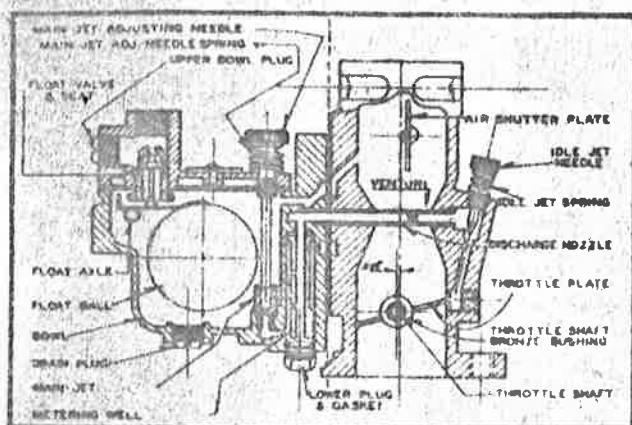

Figure 5. Cross Section of Zenith TU3YI Carburettor used on some OTC-5BH Units.
16. The Onan American OTC-5BH will be equipped with either a Zenith TU3YI or a Marvel-Schebler V.D. downdraft type carburettor. Both types have two adjustments, a Main Jet adjustment and an Idle Mixture adjustment. See Figures 5 or 6.
18. If the engine runs unevenly under half or full load, the main jet adjustment should be changed. See Fig. 5 and 6. Make this adjustment while the plant is operating under full or nearly full load by turning the knob to the left at least one full turn to enrich the mixture. Then turn it slowly to the right until the plant begins to lose speed and power. At this point, turn it slowly to the left again until the engine regains maximum speed and power. The main jet will then be correctly adjusted. Usually from $1\frac{1}{2}$ to 2 turns open on the Marvel-Schebler, and from 2 to 4 turns open on the Zenith Carburettor will be the correct setting for smooth and economical operation.
20. If the engine runs unevenly under light load, or no load, the Idle Jet Needle (See Fig. 5 and 6) should be turned to the right until it is closed. Then turn it slowly to the left or open it to the spot at which the engine runs smoothest. Usually from $1\frac{1}{2}$ to $2\frac{1}{2}$ turns open is the correct setting for smooth and economical operation for both types of carburettors.